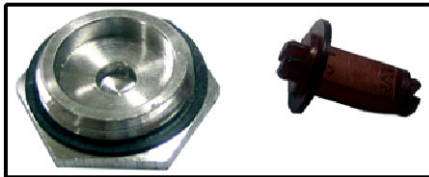

Figure 17
- 3) Remove the retainer pin. (See Figure 17)